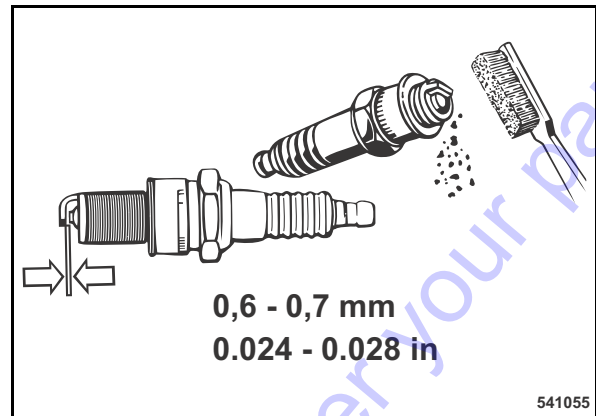

Fig. 41
- Check the spark plug (Fig. 41) visually and clean it if necessary.